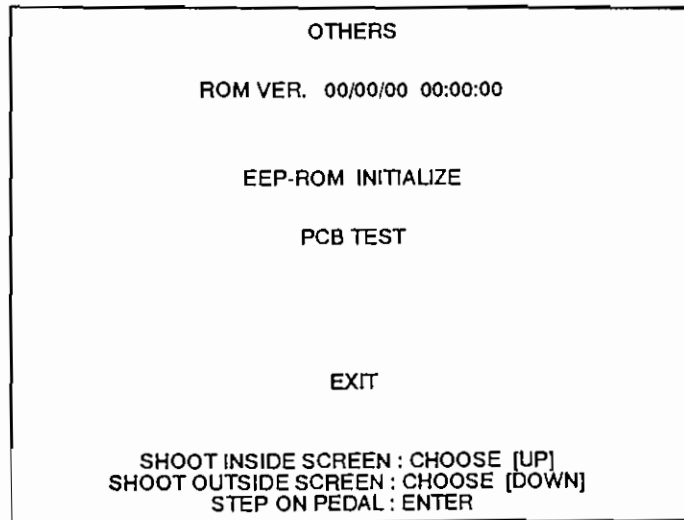

Fig. 6.10 OTHERS Screen
3) If "PCB TEST" is selected on the "OTHERS" screen (Fig. 6.10) and the pedal is stepped on, the "PCB Test" screen is displayed.